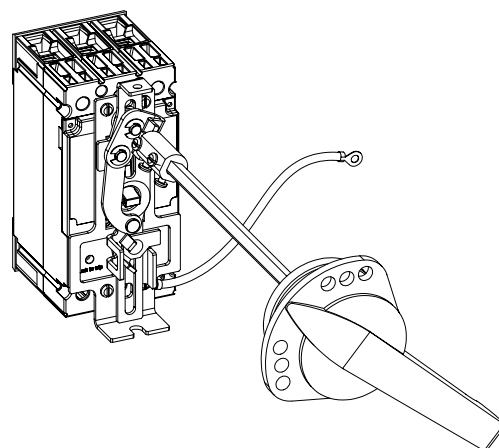

Figure 1b. FCNRM4
- FCNRM4 is for mounting the handle and operator in enclosures with variable depth, as shown in Figure 1b. Maintain the dimension “H” [Min 7.25 inches (184.0 mm) and Max 15.0 inches (381.0 mm)] as shown in Figure 10.